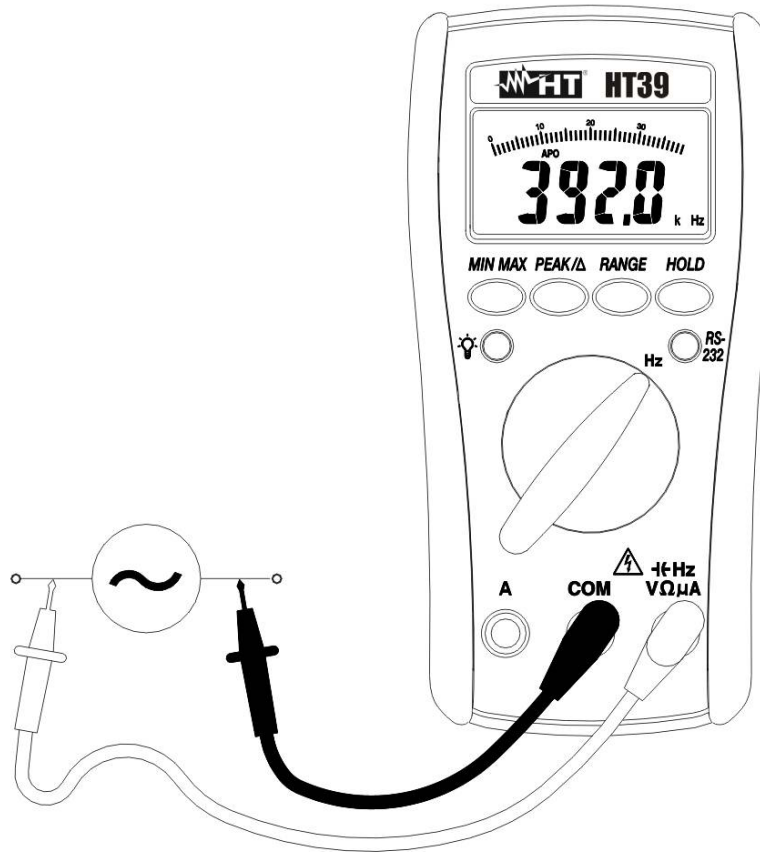

Fig. 7: Frequency measurement
2. Insert the test leads into the jacks, the red plug into $\rightarrow$ **HzVΩμA** jack and the black plug into **COM** jack (Fig. 7).